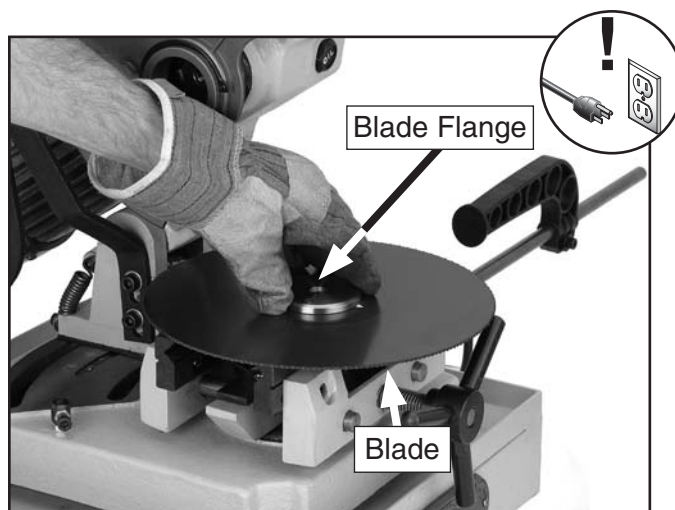

Figure 25. Installing new blade.
6. Place the blade flange on the new blade, as shown in **Figure 25**.